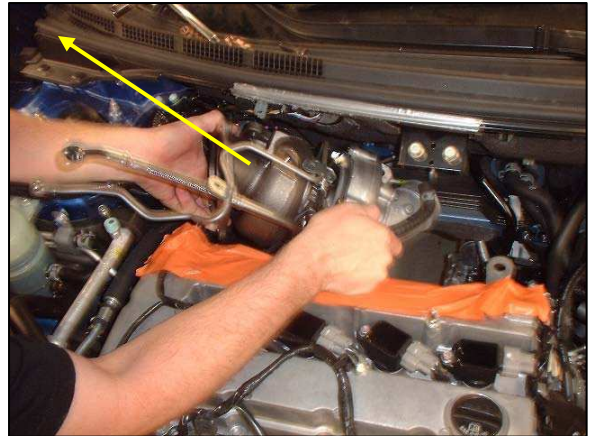

Fig. 25
28. Pull the turbocharger up and out of the engine compartment from the top side. It may be necessary to tilt the turbocharger on end and rotate it to allow removal. The space between the cowl/firewall and the valve cover is fairly tight but the turbocharger will fit. Thick tape can be used to protect the valve cover and cowl if desired. Be careful not to damage any oil lines, water lines, electrical wiring or other components under the hood. See *Fig. 25*.